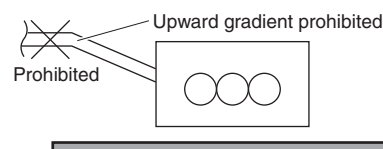

Fig. 3-95
- Do not install the pipe with an upward gradient from the connection port. This will cause the drain water to flow backward and leak when the unit is not operating. (Fig. 3-95)